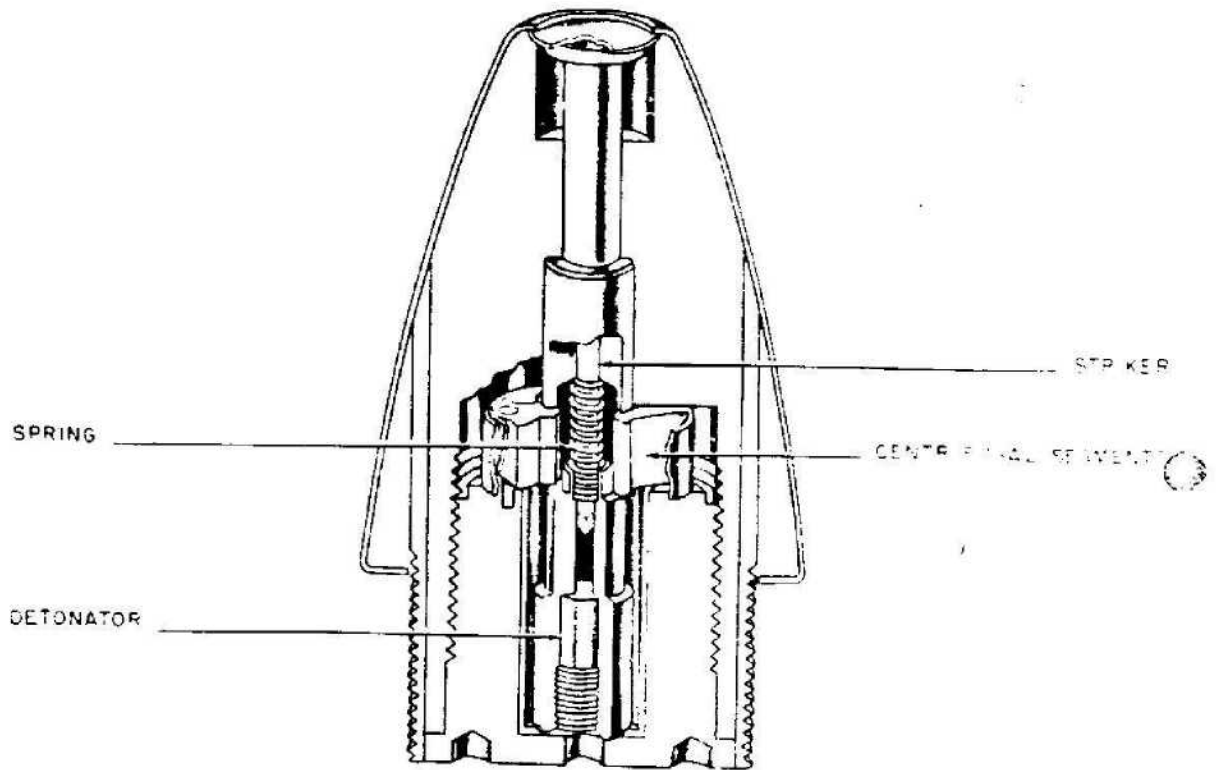

Figure 581A—Kl. A. Z. 23 Nb
**DESCRIPTION:** This fuze has a combined direct and graze action and, excepting the igniferous detonator, has no explosive filling. (See fig. 581A.) The aluminum body of the fuze, which is closed at the top by a brass cap, carries a wooden striker positioned over a steel striker secured in an aluminum holder. An aluminum plug screwed into the base of the body contains the brass graze pellet with its 3.16-grain igniferous detonator and receives the pointed end of the striker. A steel spiral spring, fitted between the striker holder and graze pellet, keeps these two members apart during flight when the centrifugal safety segments which prevent the striker approaching the detonator in transport and in the bore are of aluminum and are pivoted on steel pins at the front end of the plug, where they are retained in the safe position by an expanding spring ring of